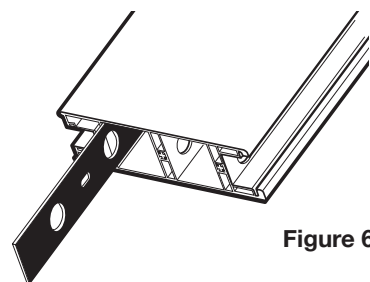

Figure 6
Insert one of the Reinforcement plates (B) into the bottom of the Stile into the innermost chamber of the Stile. See Figure 6.